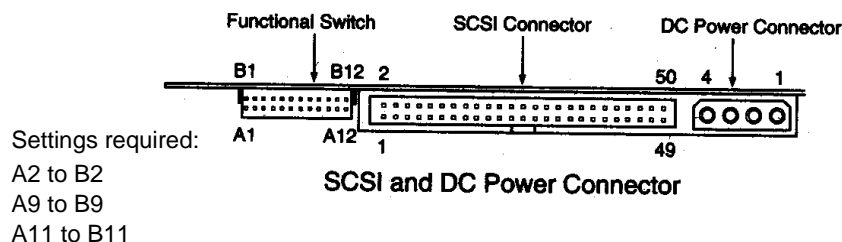

Figure 8-67 MO Drive Removal
- 2) Carefully slide the MO Drive into the front of the BEP (refer to Figure 8-67 "MO Drive Removal" on page 8-78).